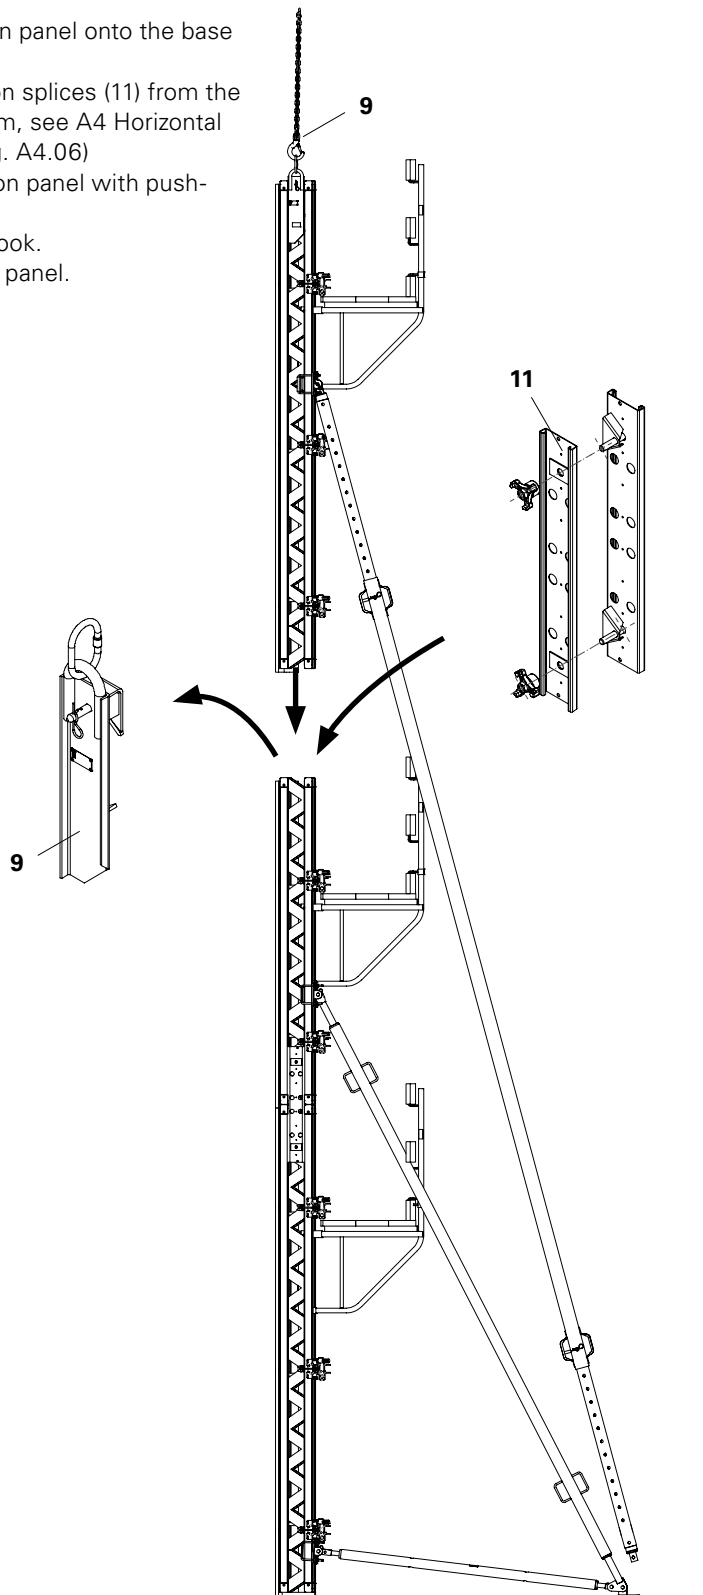

Fig. A4.06
1. Remove crane splices (9) from the base panel and attach to the extension panel.
4. Mount extension splices (11) from the working platform, see A4 Horizontal extensions. (Fig. A4.06)